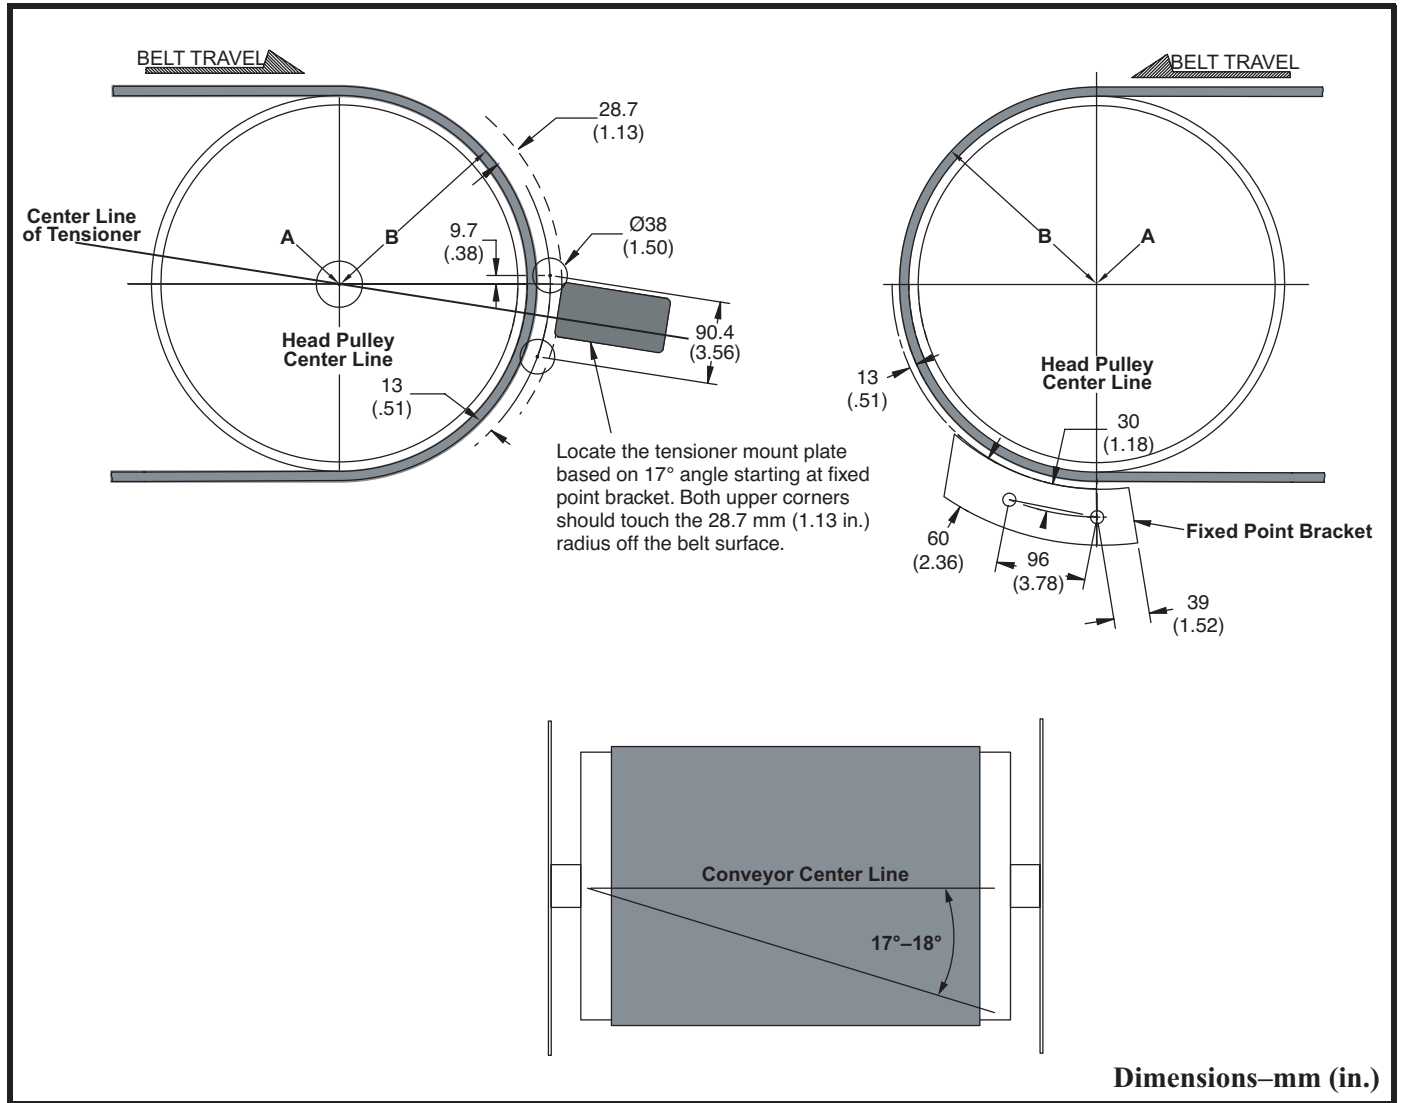

**Figure 4. Installations with Wide Chute Walls**
- f. The distance between the cleaner and the chute wall should be minimized. Martin Engineering recommends keeping the distance to 150mm (6 in.) maximum per side (see Figure 4). Excess cable could result in vibration that could damage the belt or the cleaner. If necessary, build a sub-wall to support the tensioners in the proper position. Consult Martin Engineering for installation assistance if parameters fall outside of this range.